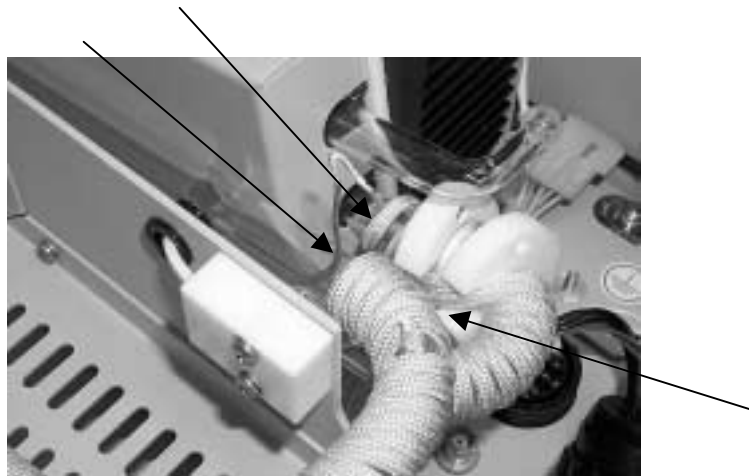

Figure 13
12. Note how the Heater cable is wound around and through the clamp. Remove the red rubber boot holding the thermocouple wire and pull the wire from the glass. See Fig. 13